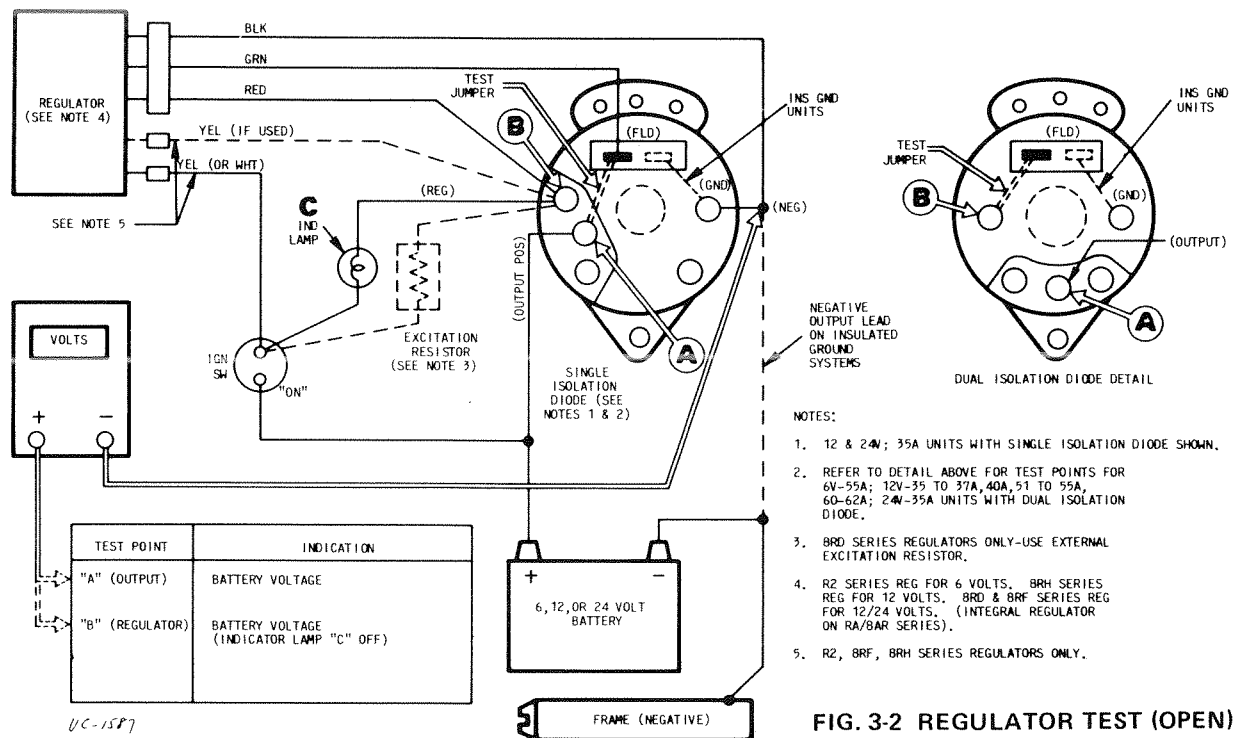

FIG. 3-2 REGULATOR TEST (OPEN)
**CONDITIONS:** Engine stopped (key "on") or idling (after proper hook-up is made & test leads connected) and voltmeter set-up as shown in Figure 3-2.